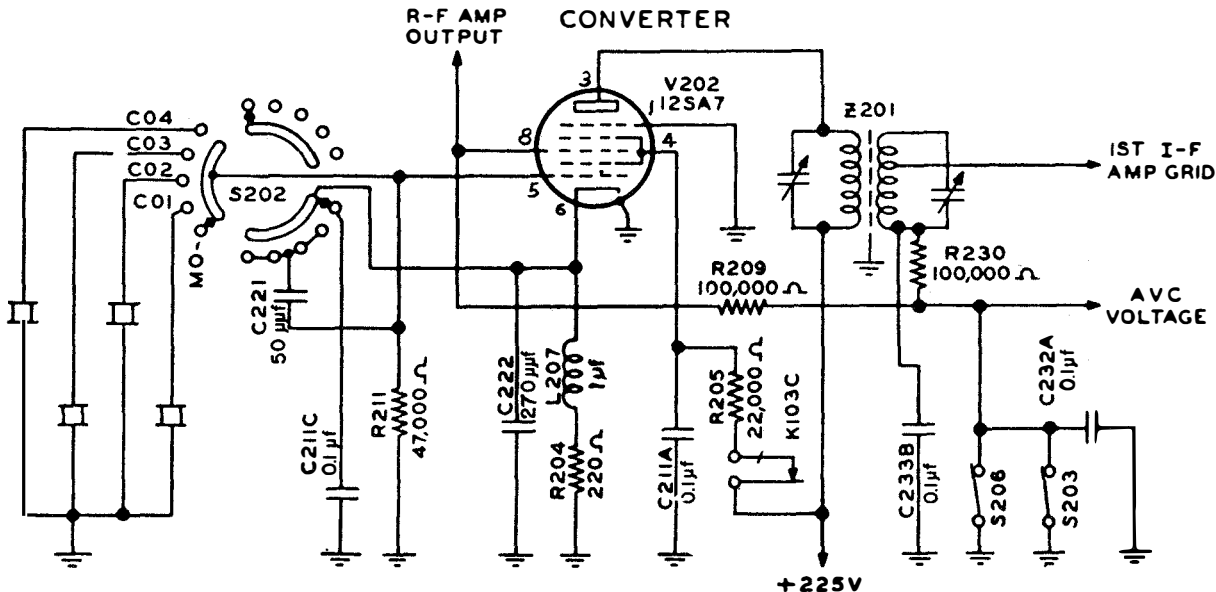

Figure 2-14 Receiver Converter Circuit
**c. OSCILLATOR.** (See figures 2-14, 2-15.)—It is probable that the receiver, for most of the time, will be